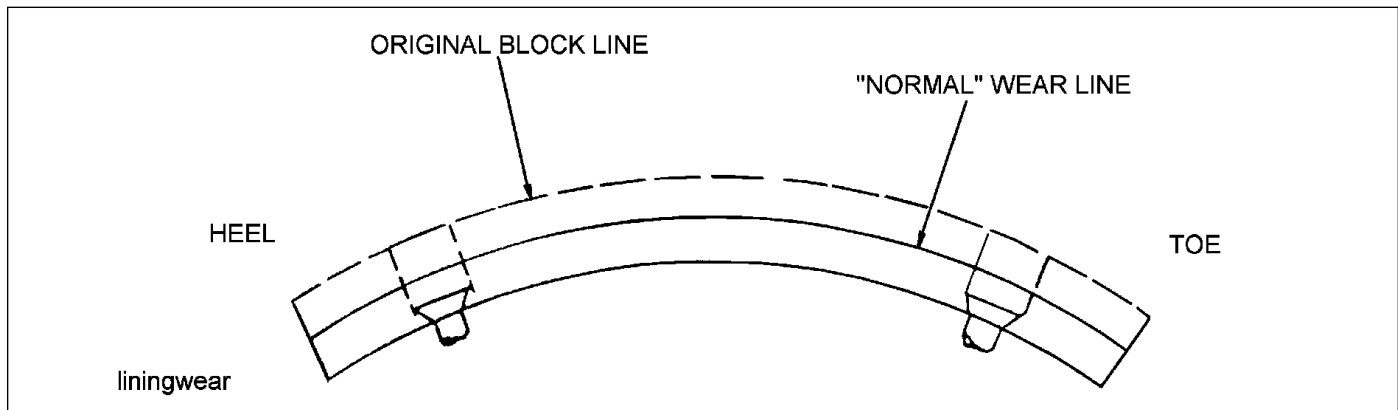

Figure 4-12: Brake Lining Wear
3. Check brake linings for excessive wear or distortion. (See Figure 4-12.)